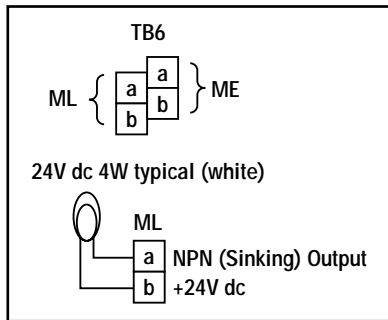

Figure 3-19. Monitored lamp hookup
TB6 provides connection terminals for one input, Mute Enable (ME a/b), and one output, Mute Lamp (ML a/b) (see Figure 3-19). The Mute Lamp (ML) output is to provide a visible indication when the safeguarding function of the safety light screen is muted. This indication must be readily observable. Failure of this indication should be detectable and prevent the System from being muted, or the operation of the indicator should be verified at suitable intervals (see 2.11.3).